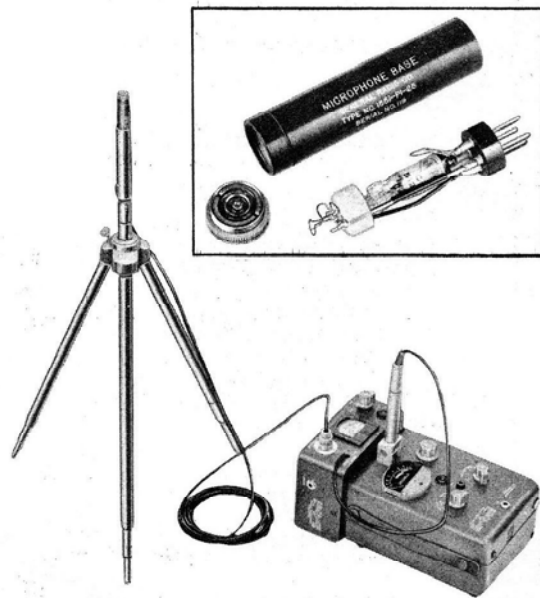

Figure 1. Type 1551-P1 Condenser Microphone System. (Inset shows microphone base disassembled.)
1.1 PURPOSE. The Type 1551-P1 Condenser Microphone System (Figure 1, page iii) is designed for use with the Type 1551 Sound-Level Meters. It is especially useful for measurements over wide frequency ranges and at frequencies above 5 kc.
1.2.3 MICROPHONE BASE. The Type 1551-P1-25 Microphone Base (inset, Figure 1) acts as a mounting for the condenser microphone and houses a subminiature tube (Type CK512AX) connected as a cathode follower. The tube transforms the high output impedance of the microphone down to a level that can be used satisfactorily at the Sound-Level Meter input. The
1.2.4 POWER SUPPLY. The battery-operated Type 1551-P1-30 Power Supply provides the filament and plate supply for the preamplifier tube and the 200 volts necessary to polarize the condenser microphone. The power supply, packaged in a simple aluminum case, may sit near the Sound-Level Meter, or, if a permanent setup is desired, it can be attached to the end frame of the meter (as in Figure 1).